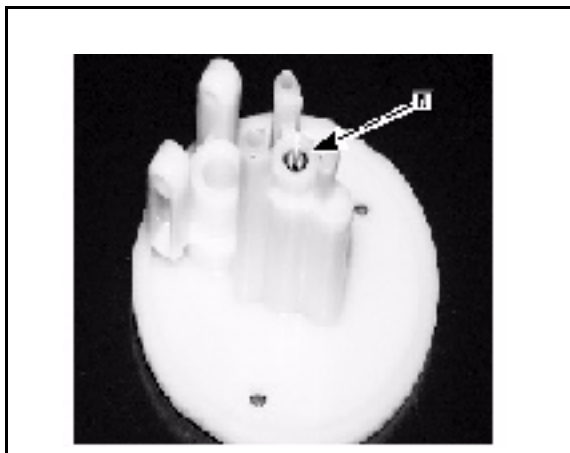

Fig. 135
7. Press down on the main jet ([N] Fig. 135) to remove it from the float base tube.